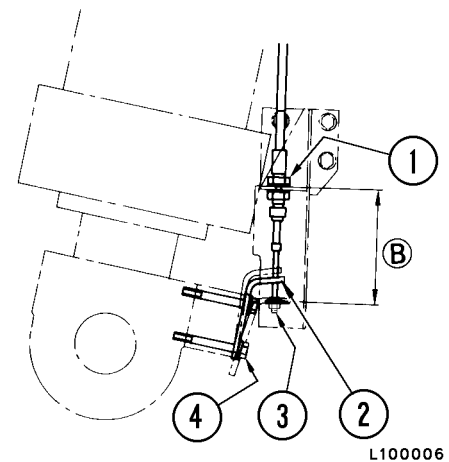

FIGURE 10-6. HOIST LIMIT PLATE
2. With the dump body raised to a point 50 mm (1.96 in) before the end of the hoist cylinder stroke, adjust plate (2, Figure 10-6) so that the hoist valve lever is released from the detent.